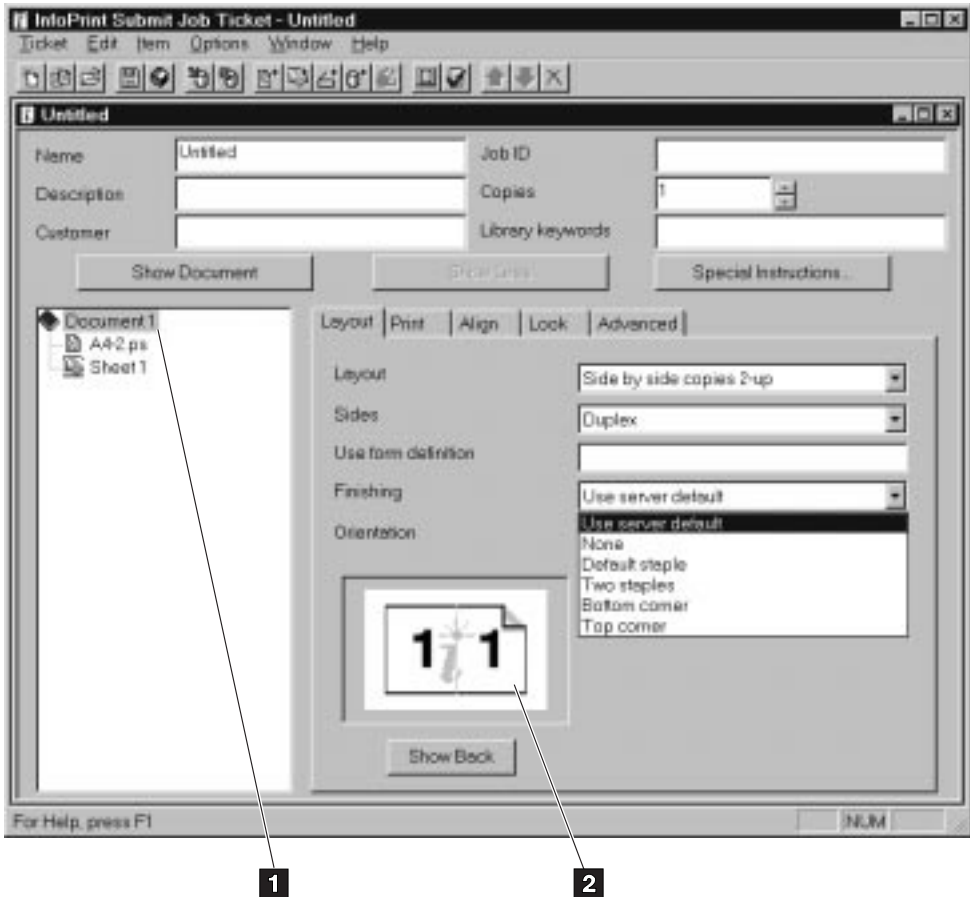

Figure 20. InfoPrint Submit Job Ticket Window - Layout Tab
1. Double-click the InfoPrint Submit icon to launch InfoPrint Submit. You see the InfoPrint Submit Job Ticket window (Figure 20 on page 21).